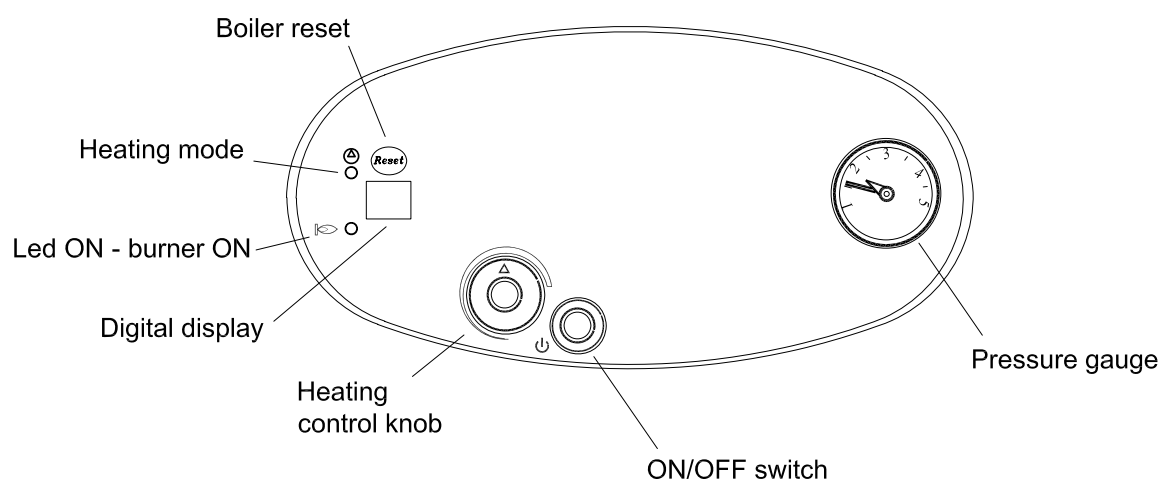

Fig. 33
Before switching on the boiler POWER SWITCH FOR THE FIRST TIME when commissioning, turn the heating control knob (Fig.33) DOWN TO ITS MINIMUM setting leaving it at minimum for approx 5 mins to purge air safely from the boiler heat exchanger.
- Turn control knob (Fig.33) down to its **minimum** setting.
- Push the power main switch to on (Fig.33)
- **NOTES : It maybe necessary to reset the Digital Timer on boiler (if fitted) to start. Put the timer to on position (Fig.33).**
- If necessary push the boiler Reset button (Fig.33) and the boiler will restart automatically.